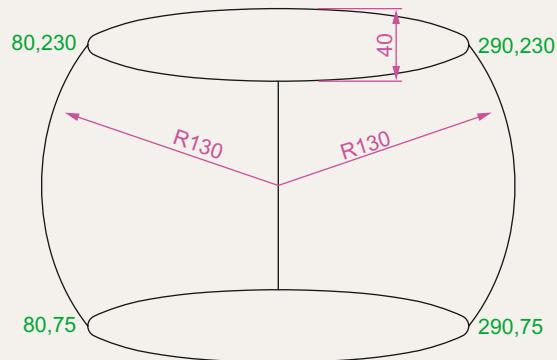

Fig. 3.46 Exercise 3
3. Using the **Ellipse** and **Arc** tools, construct the drawing Fig. 3.46.